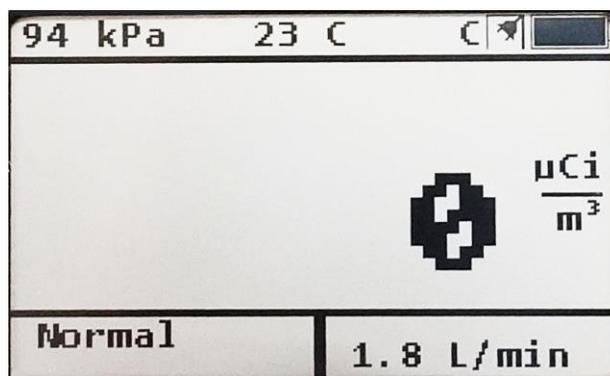

Figure 2-7. Sample Display Screen.
- c. Rotate the rotary switch to the SAMPLE position, to display the following screen (see Figure 2-7), as an example. The following example screen shows the current tritium concentration in bold in the middle of the screen, the temperature, pressure, and power status on the top line, the current airflow in the lower right, and fail indications in the lower left. Ensure that the status of the airflow is NORMAL in the lower left of the screen. A "Fail Air" warning is given any time the airflow is too low, likely resulting from either a clogged particulate filter or kinked air hoses on the IN or OUT side of the instrument. Replace the particulate filter as described in Section 5.4, or troubleshoot as described in Section 6.